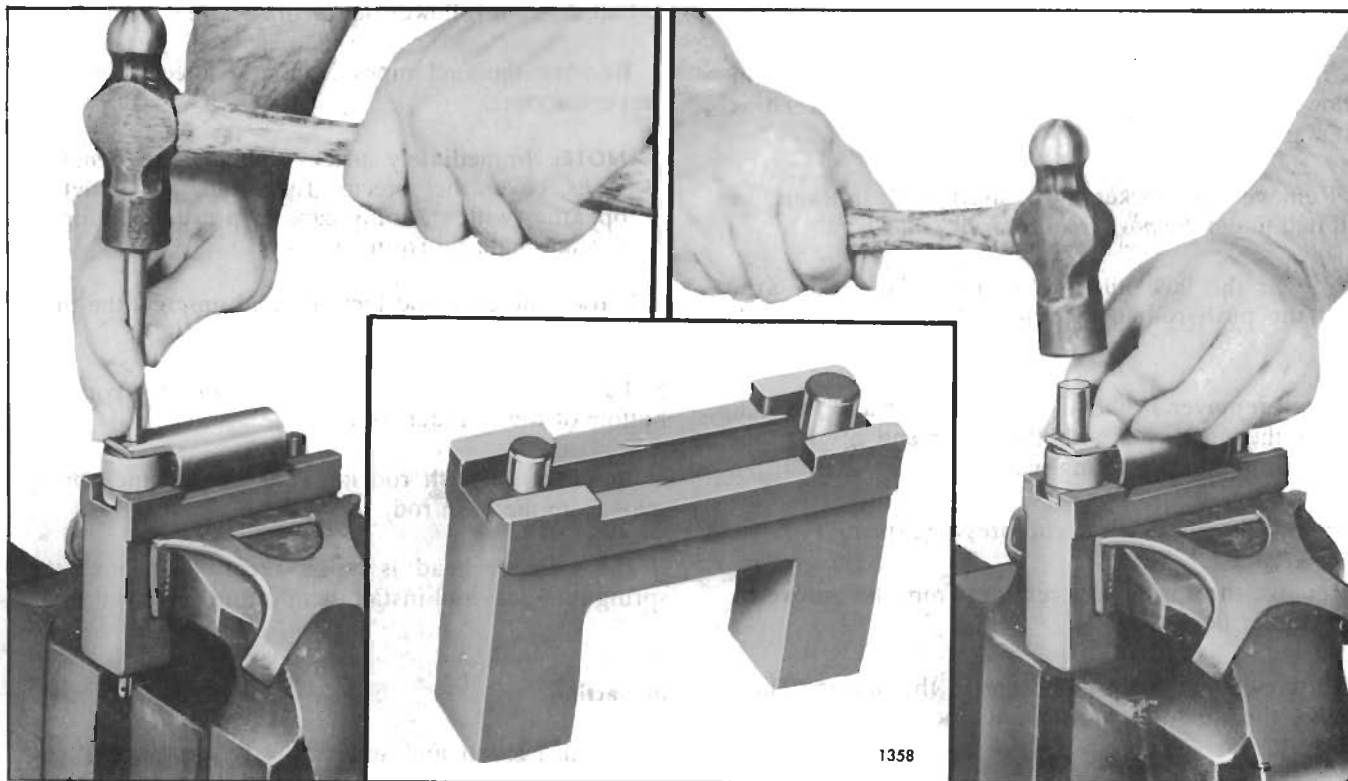

Fig. 7 - Removing or Installing Cam Follower Roller and Pin
1. Clamp fixture J 5840-01 securely in a vise as shown in Fig. 7. Then place the cam follower in the groove in the top of the fixture, with the follower pin resting on top of the corresponding size plunger in the fixture.